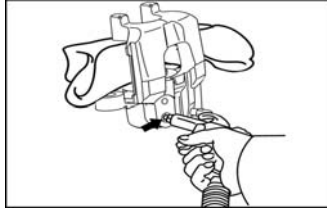

Fig. 2-65
① Place a cloth or equivalent between the slave cylinder and piston.
② Blow out the piston from the brake slave cylinder by compressed air. See Fig. 2-65.